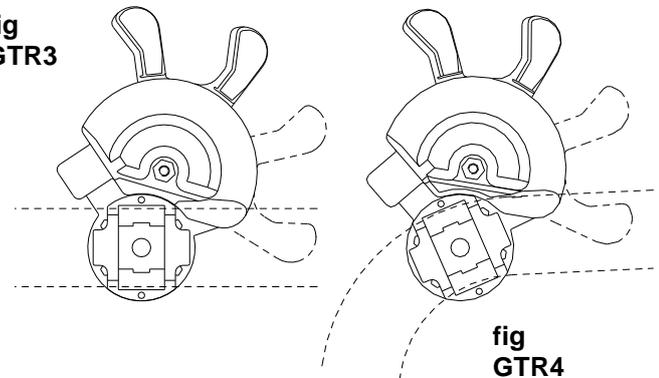

**fig GTR2**
**Fig. GTR2** shows the method for rotating the control on the trigger boss.
The rotational position of the trigger can now be selected as shown in **fig.GTR2**.